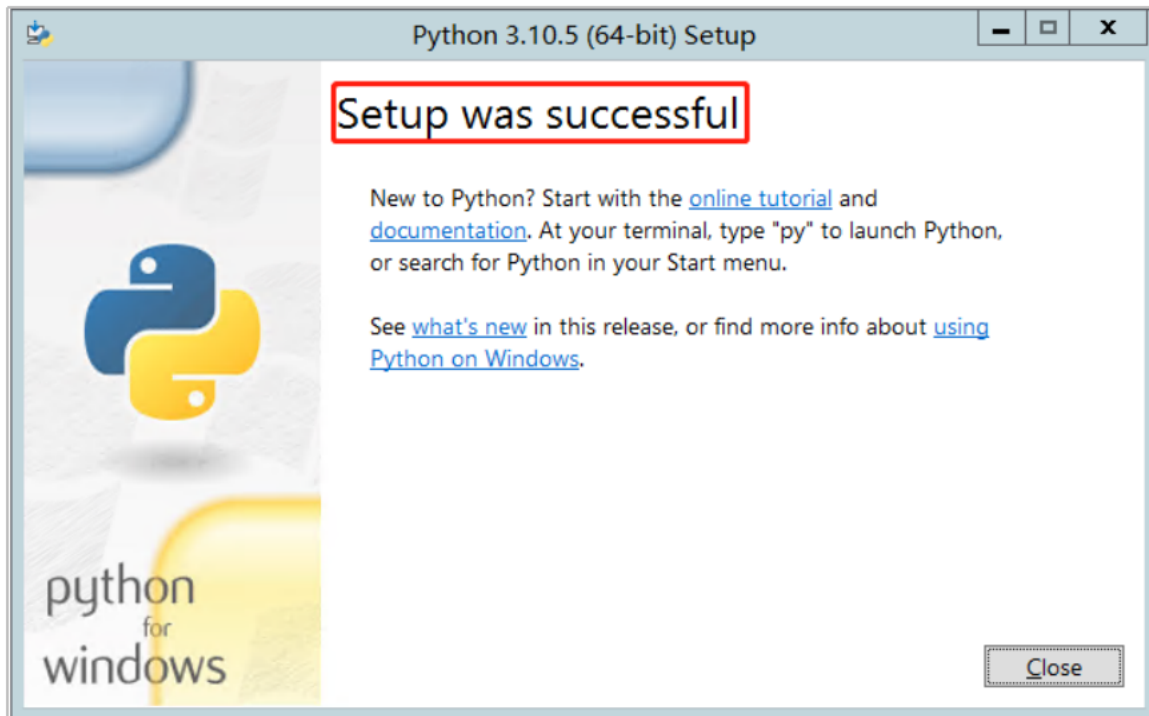

Figure 1-4
- (3) Wait until the message "Setup was successful" is displayed, indicating that the installation has completed successfully, as shown in Figure 1-4.